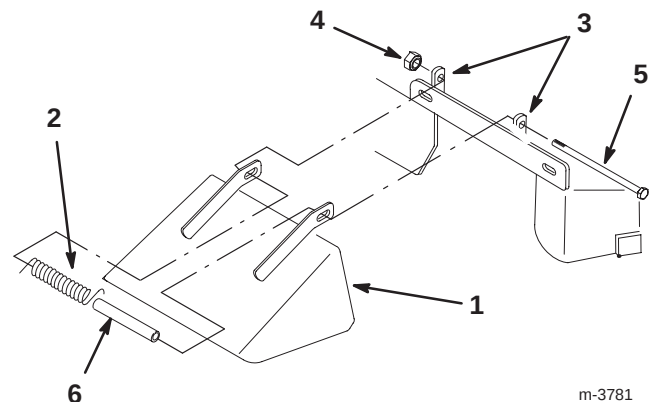

Figure 62
3. Remove the locknut, bolt, spring, and spacer that hold the deflector to the mounts (Fig. 62).
4. Straighten the deflector mounts if they are bent (Fig. 62).
8. Ensure that there is downward spring force on deflector (Fig. 62).
9. Tighten the bolt and locknut until they lightly contact the pivot brackets (Fig. 62).